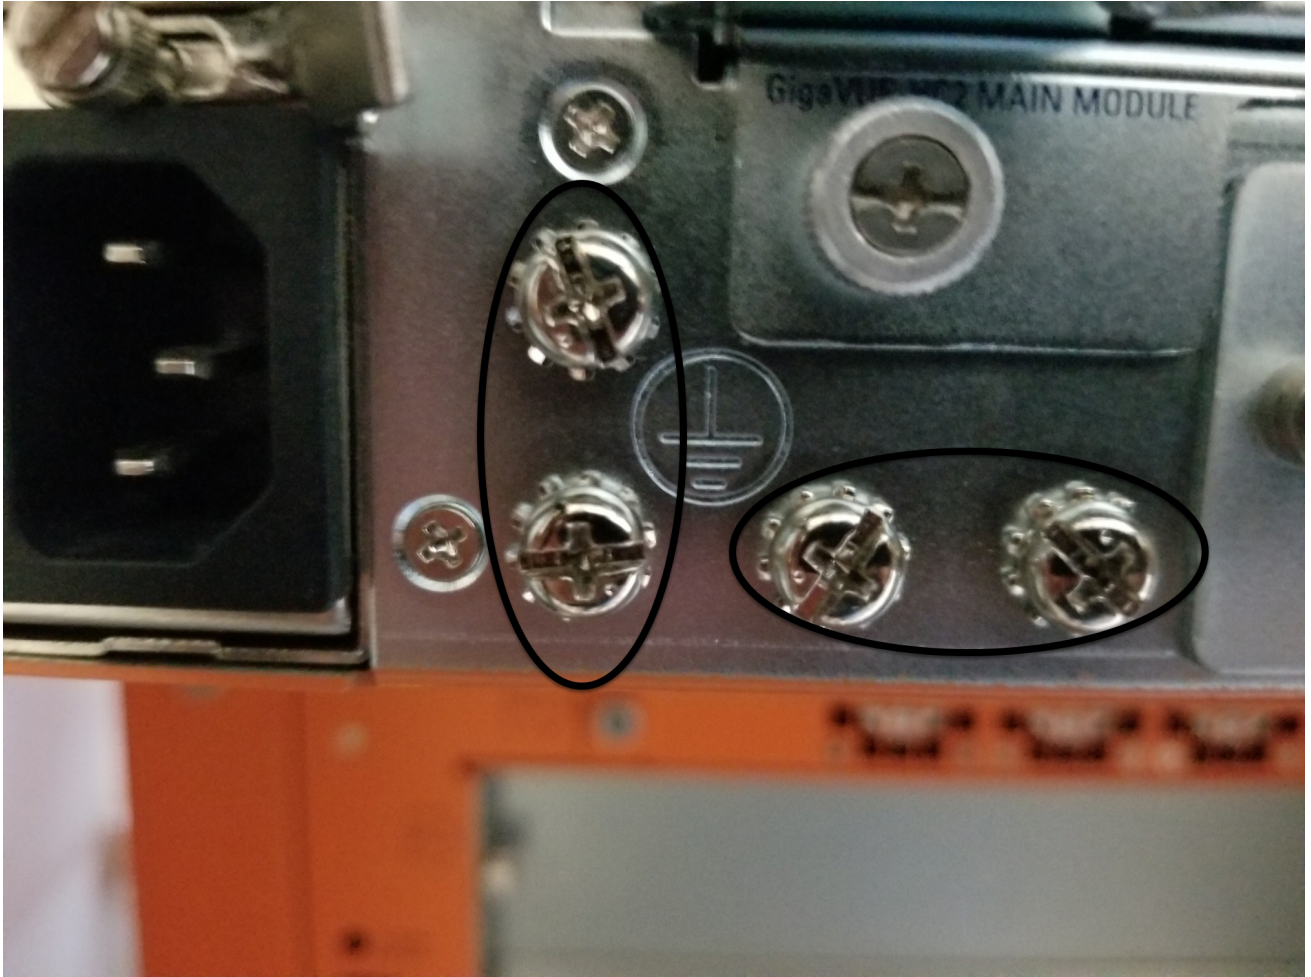

Figure 1: Grounding Points for Ground Screws (GigaVUE-HC2 Shown)
1. Locate the grounding points near the bottom left corner at the rear of the chassis to the right of the power plug. There are two pairs of grounding points as shown in Figure 1: Grounding Points for Ground Screws \(GigaVUE-HC2 Shown\).